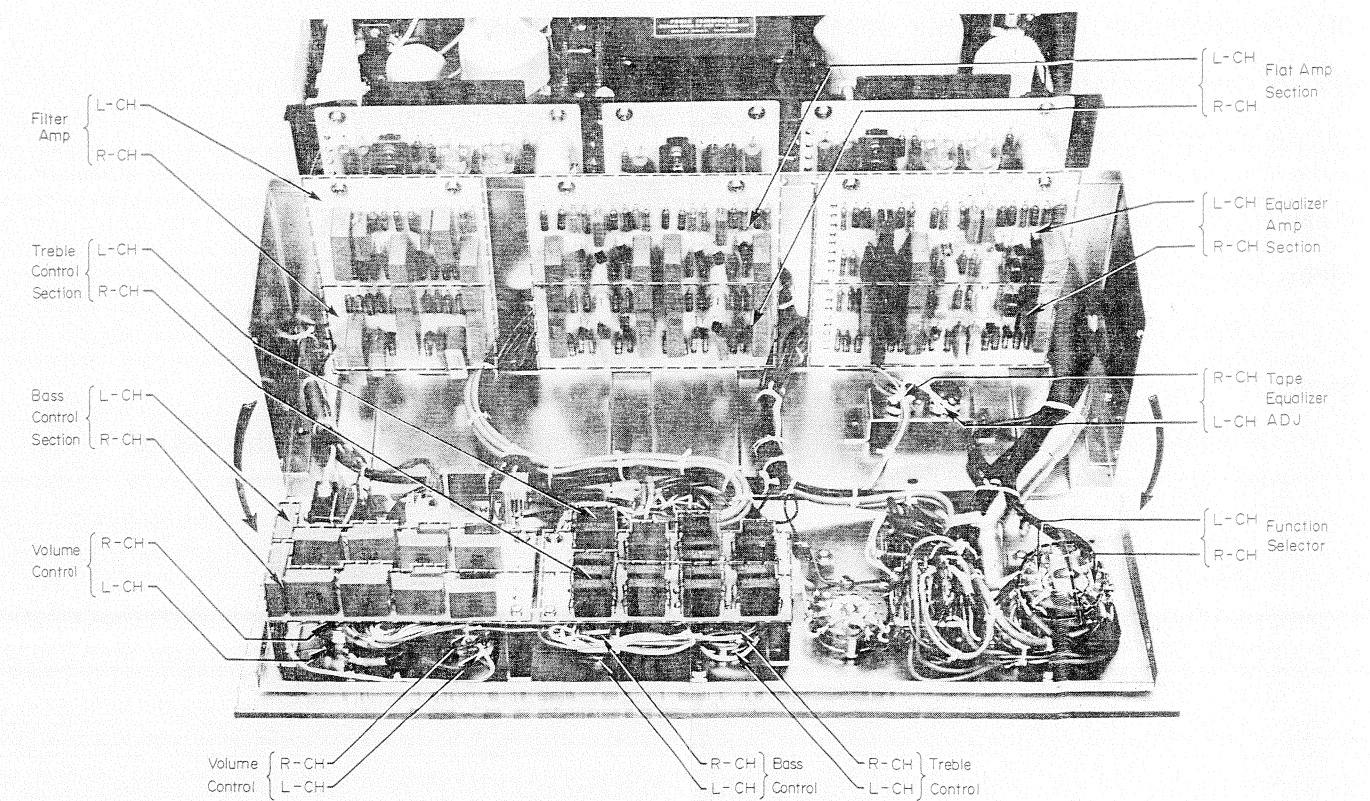

Fig. 1-4
- (c) The service will be easily done after above procedures as shown in Fig. 1-4.